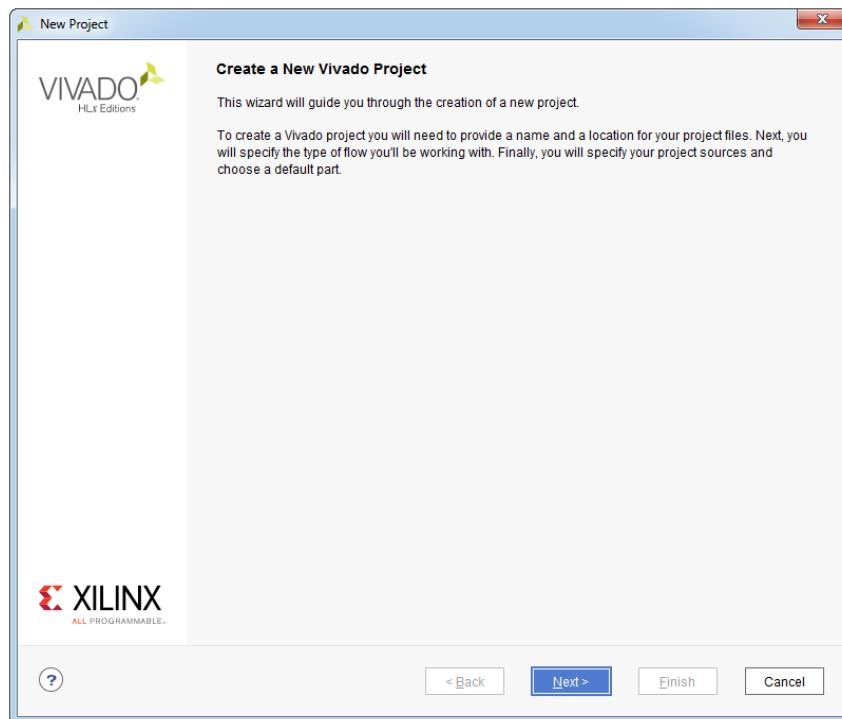

Figure 2.3: Create a New Vivado Project dialog box
3. In the **Create a New Vivado Project** dialog box click **Next** and the wizard will guide you through the creation of a new project, see Figure 2.3.